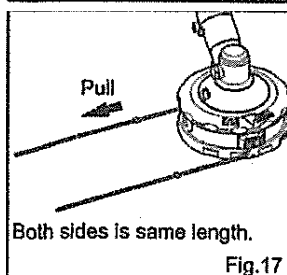

Fig. 17
3. Adjust the nylon line of both sides to the same length (Fig. 17).